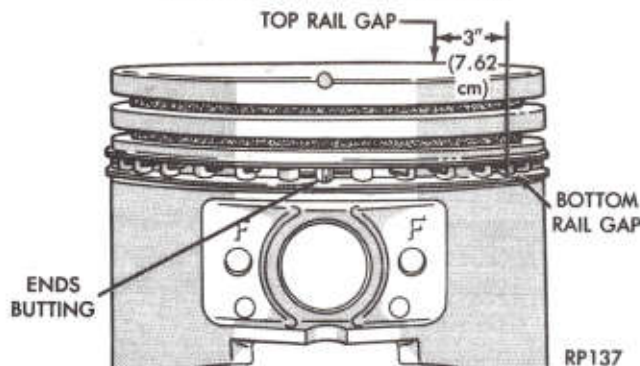

Fig. 45—Proper Oil Ring Installation
(4) On the 3.9L engine, the keys on the spacer expander must be inserted into the hole in the oil ring groove over the piston pin front boss. (Fig. 45).
(5) Arrange oil ring rail gaps on inboard side of piston as shown at top of (Fig. 45).
(6) Install compression rings in middle and top grooves; use Ring Installer Tool C-4184. Be sure the identification mark (a drill point, stamped letter "O", oval depression or word top) on each compression ring is to the top of the piston when ring is installed.
(1) Before installing pistons, and connecting rod assemblies into the bore, be sure that compression ring gaps are staggered so that neither is in line with oil ring rail gap.
(2) Before installing the ring compressor, make sure the oil ring expander ends are butted and the rail gaps located as shown in (Fig. 45).
(3) Immerse the piston head and rings in clean engine oil, slide the ring compressor, Tool C-385, over the piston and tighten with the special wrench (part of Tool C-385). **Be sure position of rings does not**